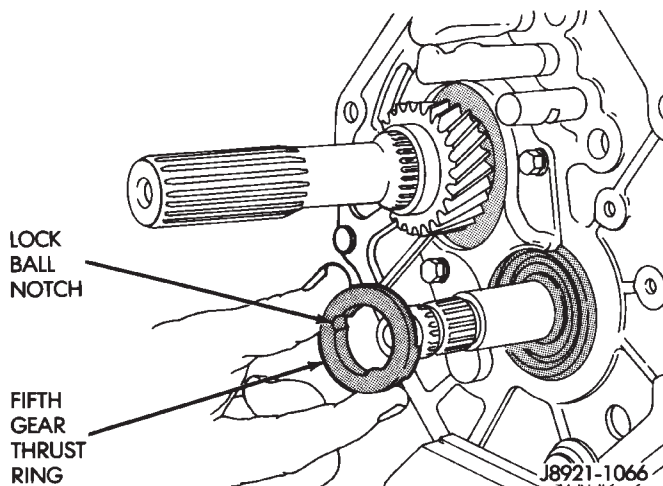

Fig. 55 Remove Fifth Gear Thrust Ring
- (7) Remove fifth gear thrust ring from countershaft (Fig. 55).